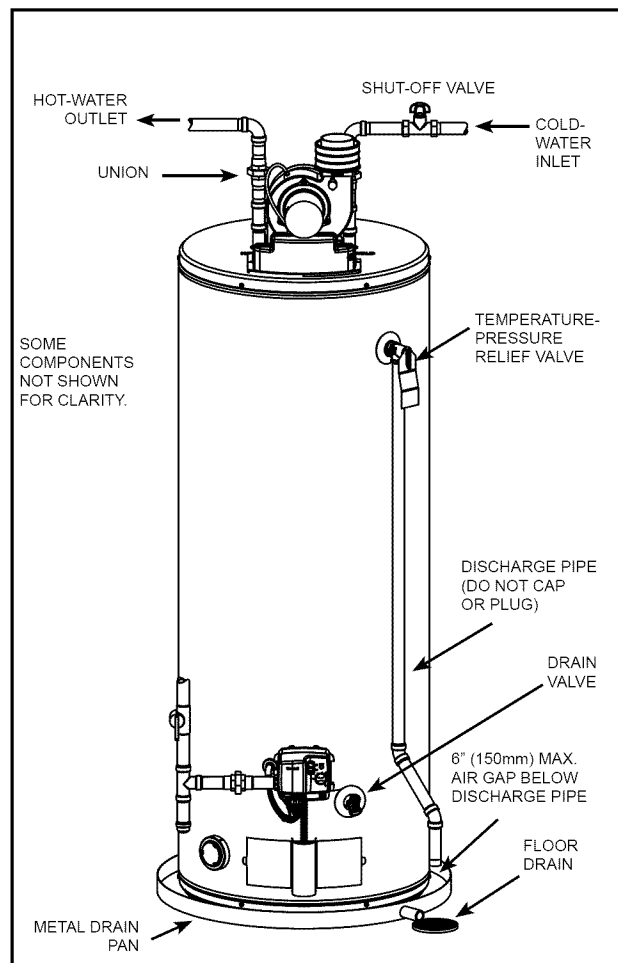

Figure 42
1. Close the water heater drain valve by turning handle to the right (clockwise). The drain valve is on the lower front of water heater (see Figure 42).